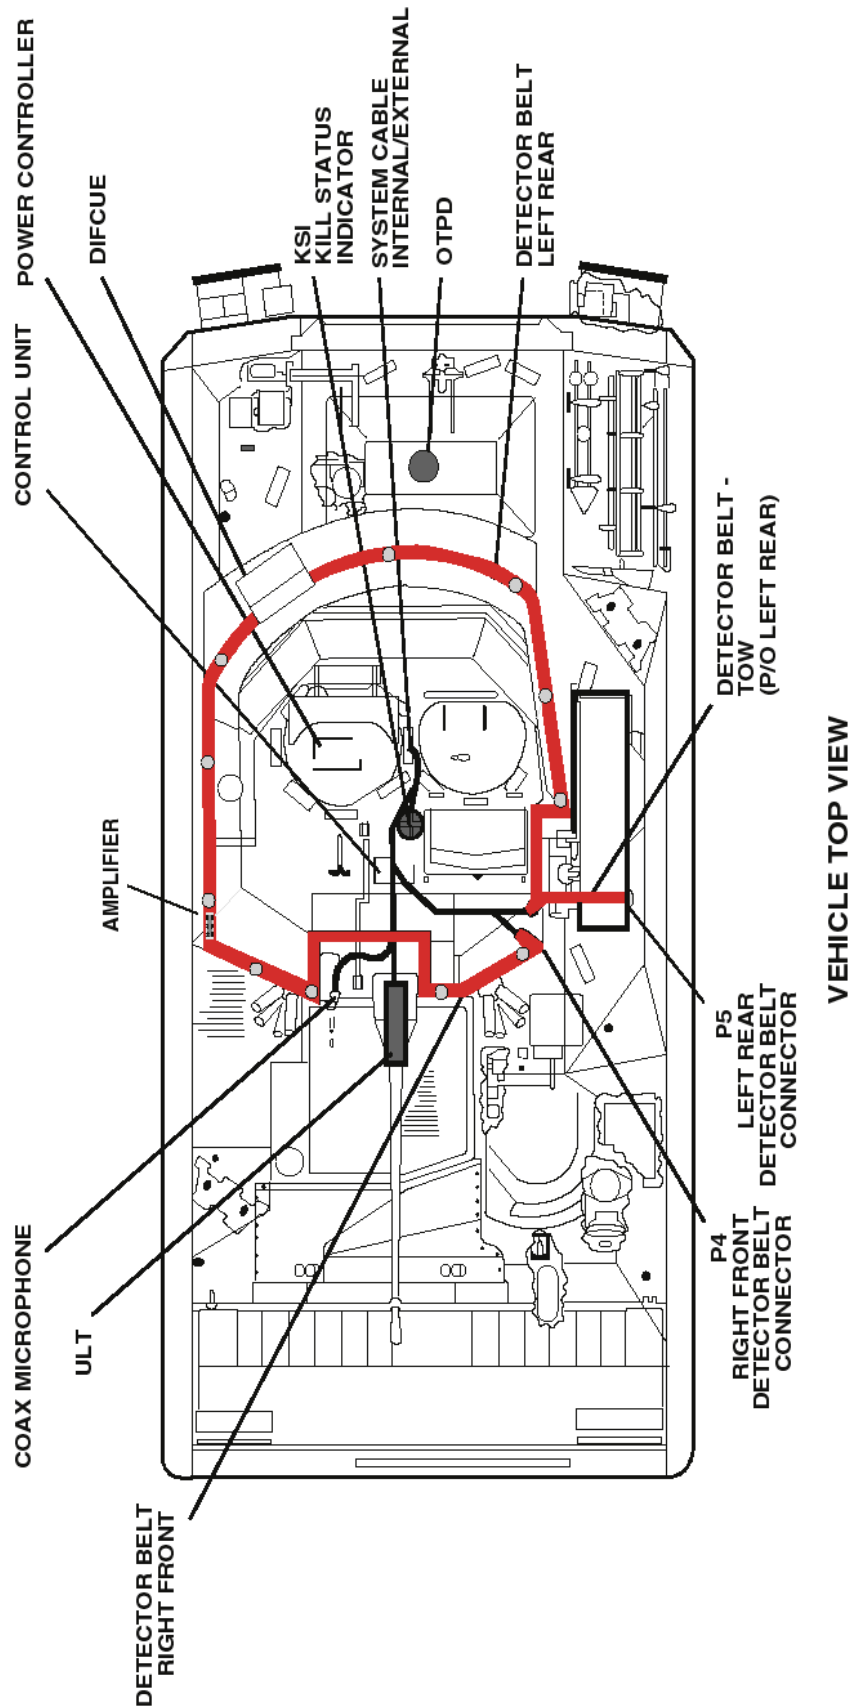

Figure 2-14. M2/M3 Detector Belt Positioning.
- a. Mark the vehicle for primer/fastener tape application along the areas where the belts will be routed. Those areas are described in the following paragraphs and shown in Figure 2-14.